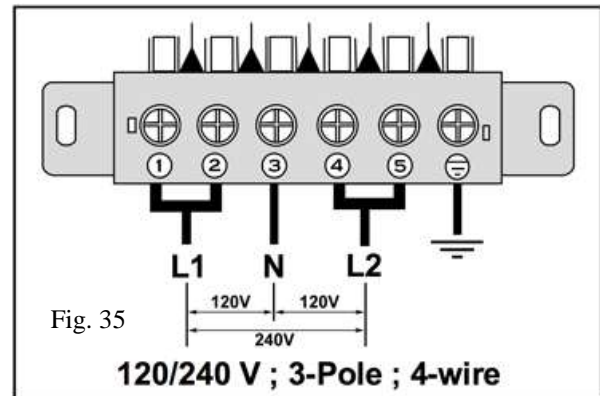

Fig. 35
- Connect to terminal block in accordance with figure 35.